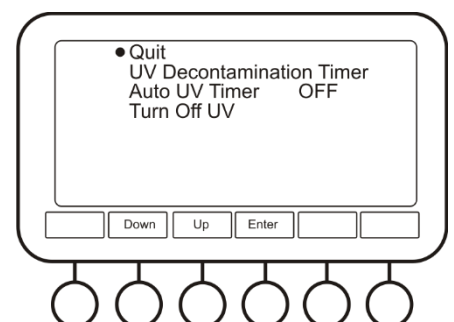

Fig. 3. Timer menu
- 4.9.1. **Timer** (fig. 3). In this submenu user can set UV decontamination timer and Auto UV timer.